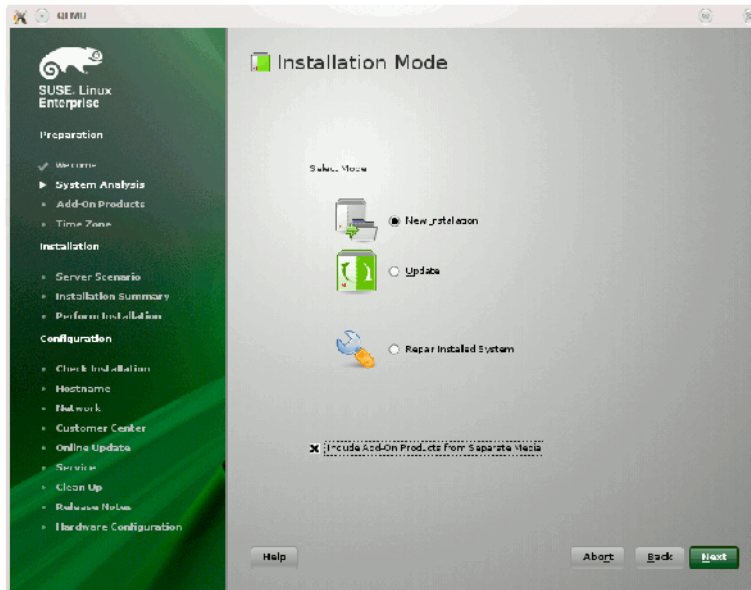

Figure 1-13 SLES11 Installation Mode Screen
2. Follow the steps in the *SUSE Linux Enterprise Server 11 Installation Quick Start*. When you get to the **Installation Mode** screen, as shown in Figure 1-13 on page 24, click the button next to **Include Add-On Products from Separate Media** and then click **Next** to continue.